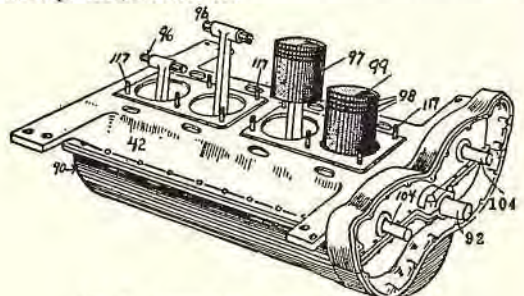

Fig. 5. Piston pins, pistons, cylinder studs.
The piston or wrist pin (96) (Fig. 5) in the small end of the connecting rod is shown here. This holds the piston to the end of the connecting rod (details of each part will be explained farther on).
The cylinders (39) are held to the crank case by nuts fastening to studs (117) (Fig. 5).